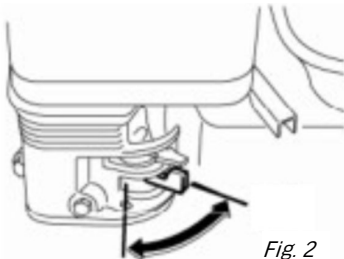

Fig. 2
1. Open the fuel valve by moving the lever to the right (Fig. 2).